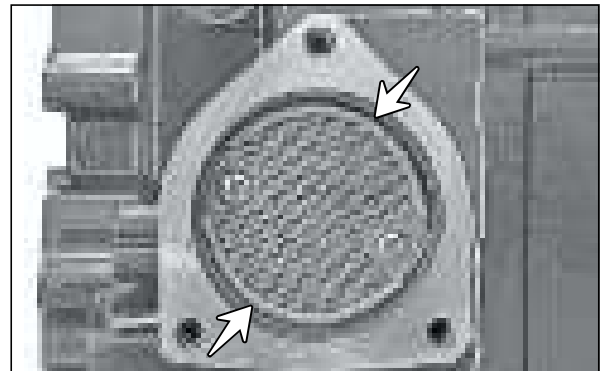

Fig. 4.40
- Oil filter is provided on the right side crankcase at the bottom, inside the cap oil strainer. (Fig. 4.40)